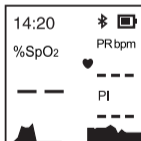

Fig.3-5
- i Swipe the screen left to enter the measurement interface, as the Fig.3-5, the values will be horizontal lines "-" before the results show.